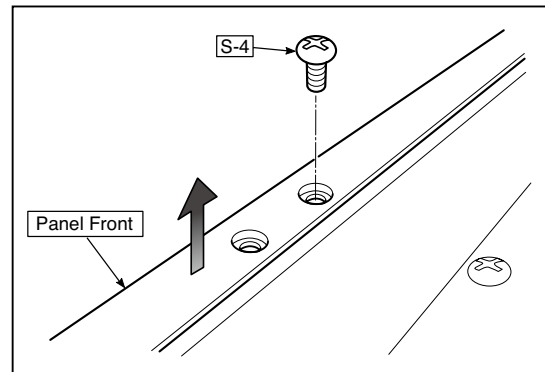

Fig.24
11) Remove the Panel Upper. (See Fig. 24)
1. Remove the "S-4" screws shown in the figure 24 and then remove the Panel Front.